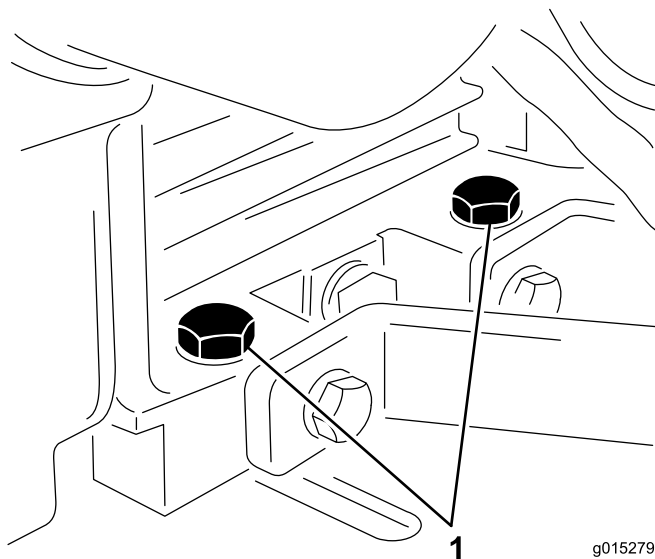

Figure 26
1. Loosen the engine mounting bolts (Figure 26).